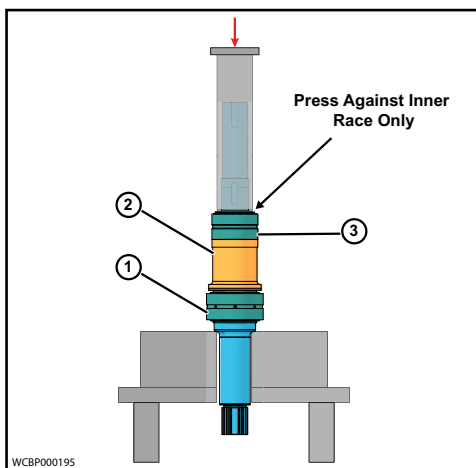

Figure 63 - Install Rear Bearing
6. Slip rear bearing (3) over shaft with shield side down. Press bearing onto shaft until it seats against spacer (2) and front bearing (1), as shown in Figure 63.